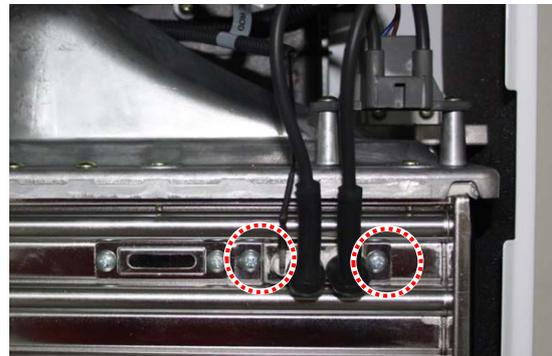

Figure 7
5. Remove the 2 screws from the flame rod as shown in figure 7 below.
9. Place the new flame rod back onto the burner assembly and secure it by using the 2 screws from figure 7.